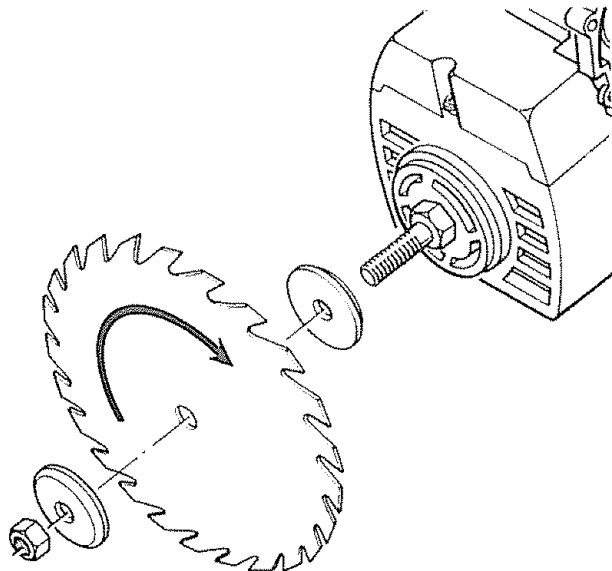

Fig. 69
2. Place the *blade* on the *arbor shaft* with a *blade collar* on each side. Make sure that the directional arrow is on the outside of the *blade*, and the teeth are pointing down at the front side of the *blade*. (Figure 69)